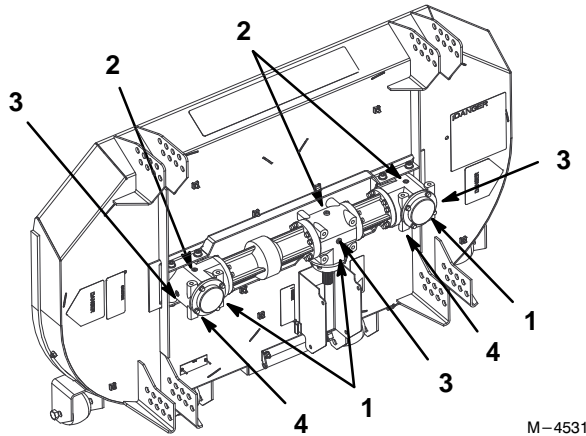

Figure 33
4. With deck raised, remove plug on the bottom side of the gearbox. Let fluid fully drain into a pan. (Fig. 33).
5. Reinstall the bottom plug into the gearbox (Fig. 33).
6. Remove the top plug to fill gearbox (Fig. 33).
8. Reinstall the top plug into the gearbox (Fig. 33).
3. Remove plug on the side of the gearbox. The fluid level must be up to side hole in gearbox (Fig. 33).
4. If needed, fill automatic transmission fluid (Dexron® III) into top hole until it runs out the side hole in gearbox. It is full when it runs out the side hole (Fig. 33).
5. Reinstall the top and side plugs into gearbox with pipe sealant (Fig. 33).